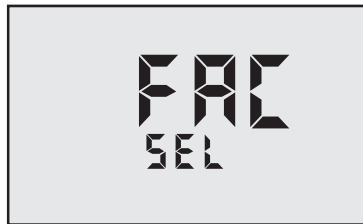

Figure 19
3. Press  repeatedly until you pass the CLF ALL and the C-F locations. The display will show a “FAC SEL” (see Figure 19).